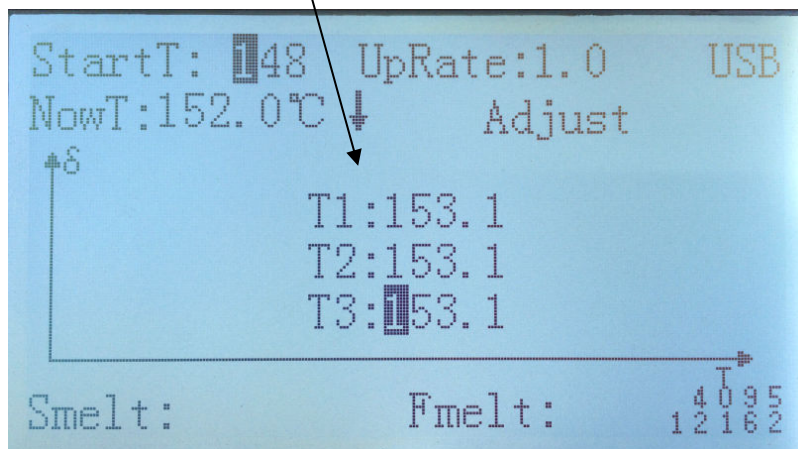

Figure 11
4) The second point third order calibration (See Figure 11):